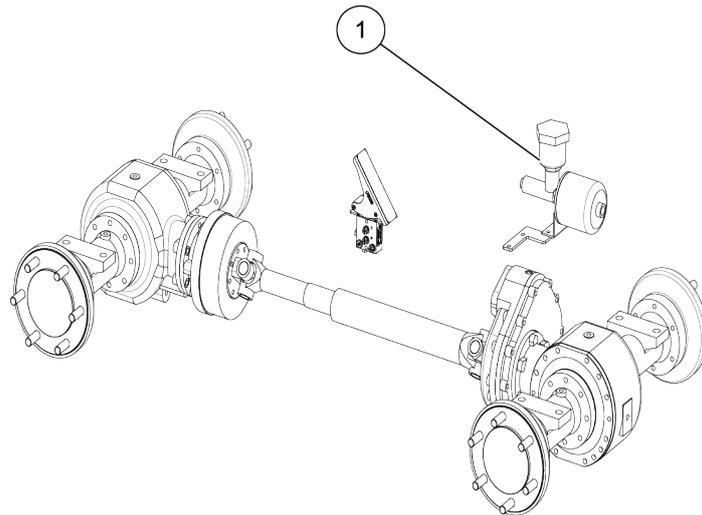

Figure 6-27 Brake fluid tank
(5) Hydraulic oil level gauge
Step 10: Remove the hydraulic oil tank cap(4) after shutdown, add hydraulic oil to the upper limit, and then tighten the oil tank cap;
Step 2: Open the engine hood and check the brake fluid level. If the brake fluid is lower than 1/3 of the height of the brake fluid tank (1), add the same type of brake fluid. The brake fluid should not be higher than 2/3 of the height of the brake fluid tank, as shown in Figure 6-27;